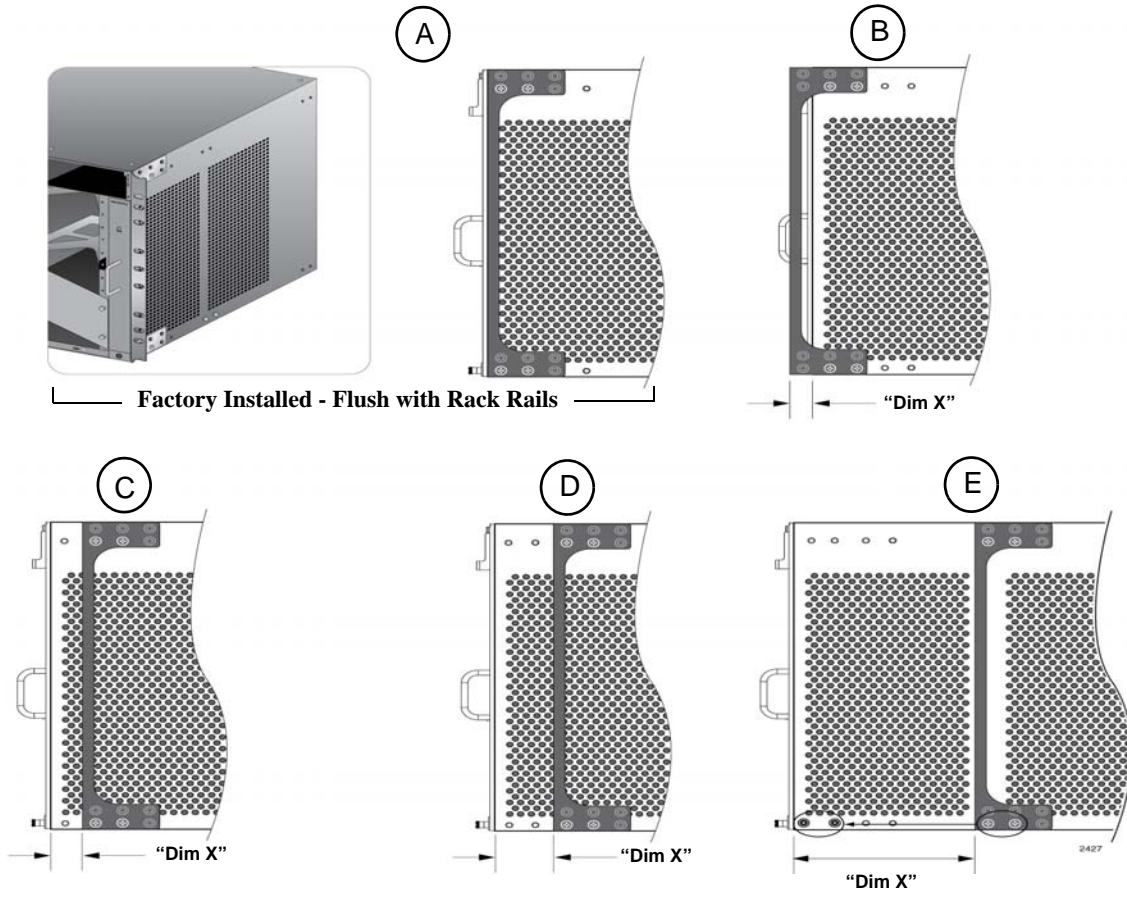
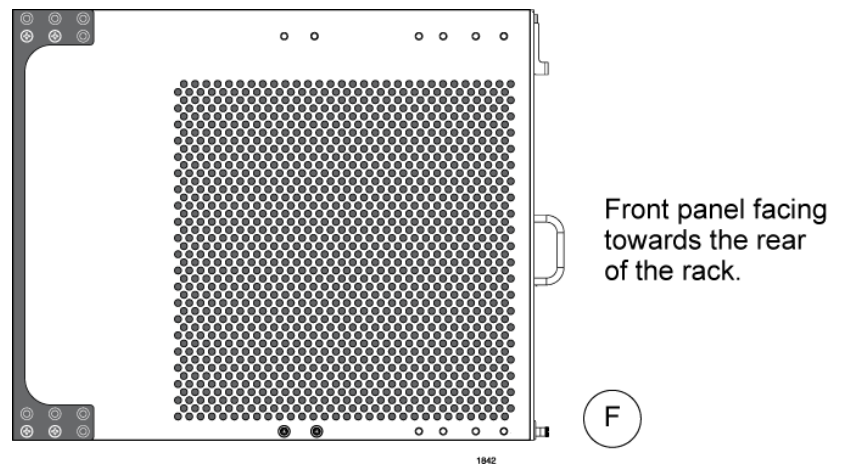

Figure 29. Rack Mounting Bracket Locations
Figure 30. Rack Bracket Locations for Reverse Position of Chassis
You adjust the brackets by removing them and re-installing them in different positions on the sides of the chassis. The different bracket positions are listed in Table 20 and illustrated in Figure 29 on page 89 and Figure 30 on page 89. Please review the following information before moving the brackets:
- To install the rack mount brackets in position “E,” you have to remove the two chassis screws from the bottom-middle section of the chassis and re-install them in front where the rack mount bracket screws were originally, as shown in Figure 29 on page 89.
- The dimension (X) between the front panel and the rack rails is given for each rack mounting bracket position in Table 20.